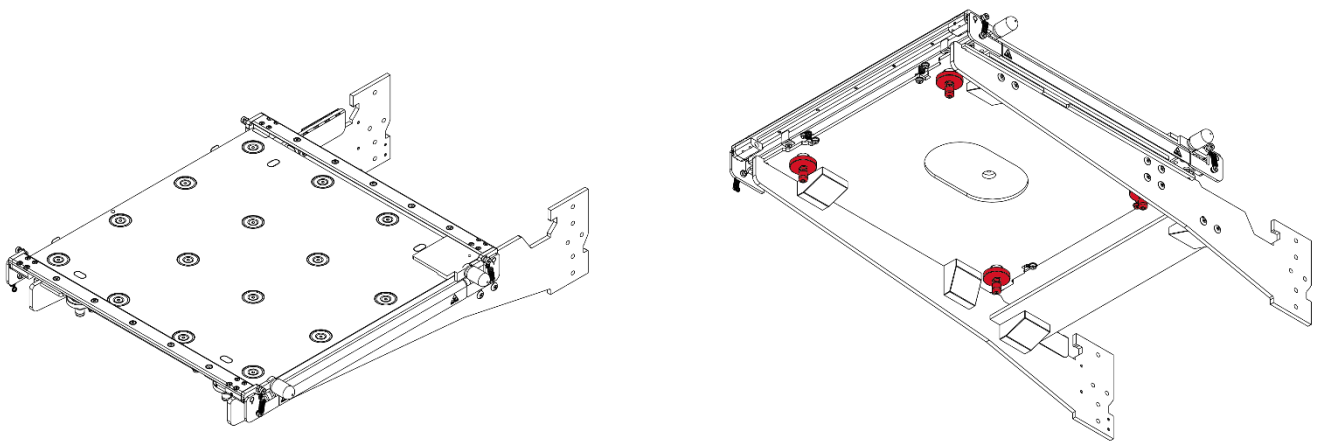

Fig. 75 Adjustment knobs located under the heatbed
9. Lower the heatbed by loosening the four adjustment knobs underneath the printed bed (Fig. 75, red). To do this, turn each knob several times ccw.